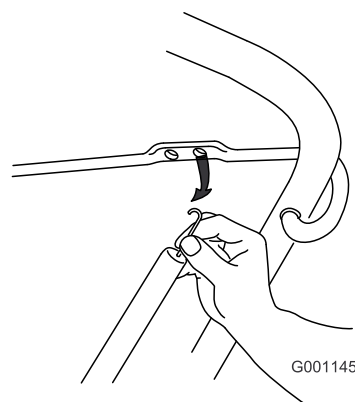

Figure 21
1. Unhook the end of the control cable spring from the control bar (Figure 21).